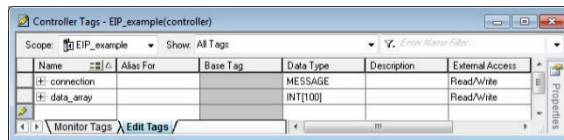

Figure 56: Create New Tags
- b) The “Controller Tags” window appears. Refer to Figure 56.